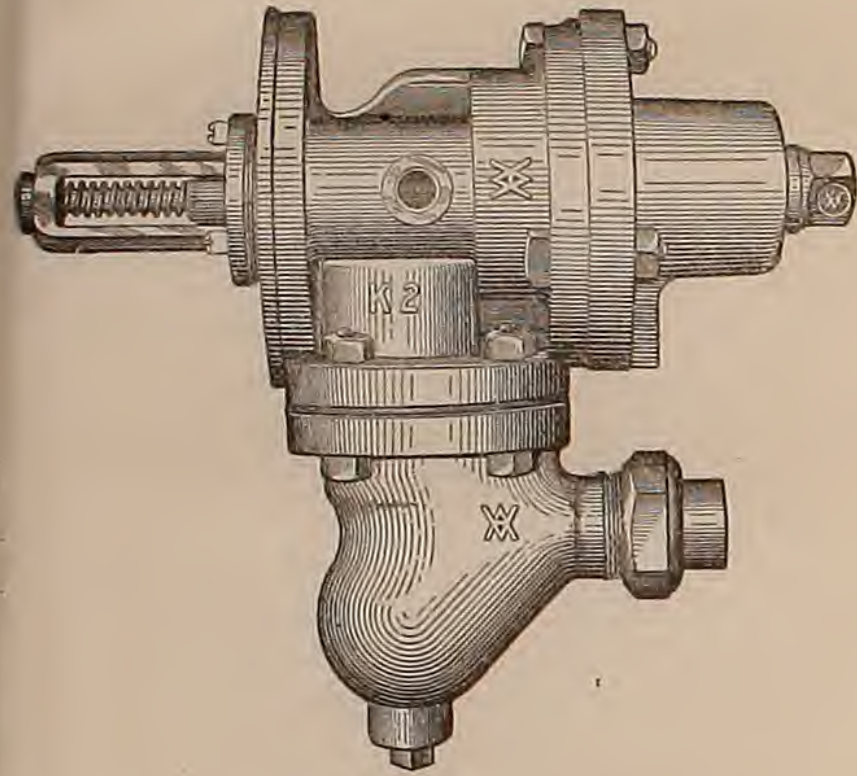

Fig. 121.
Q. What does Fig. 121 illustrate?
A. Fig. 121 illustrates the improved *K* triple valve which is now superseding the former quick-action triple valve.